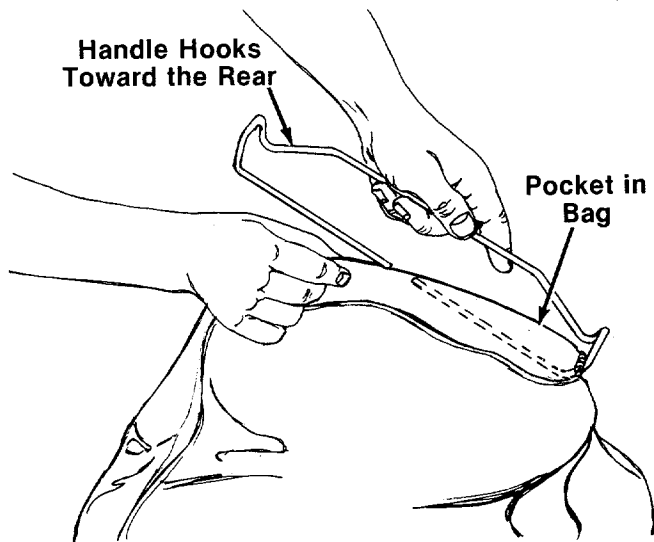

FIGURE 21.
3. Attach the rear handle to bag by inserting one side of handle into pocket on the rear of the bag. The handle should hook toward the rear of the bag as shown in figure 21. Thread all the material onto one side, then slide it over onto the other side. See figure 21.